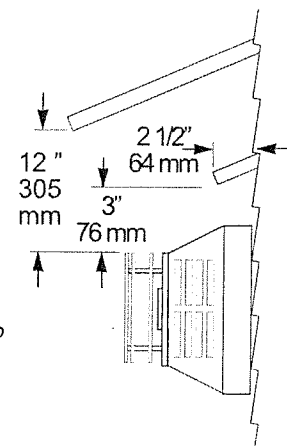

Figure 5.3
- A horizontal termination cap must maintain a 3 inch clearance to any overhead combustible materials that project 2 1/2 inches or less. Projections exceeding 2 1/2 inches require a minimum 12 inch clearance to the edge of the vent termination. See fig. 5.3.